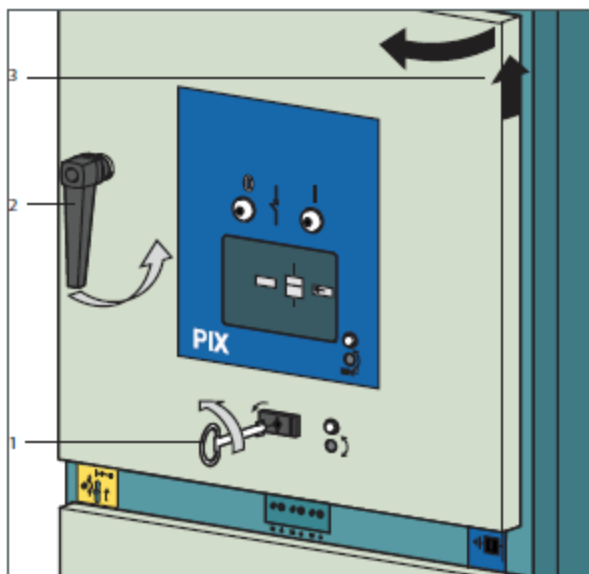

Figure 27
1. Insert double-bit key into the door opening and turn it to the left (Figure 27, 1).